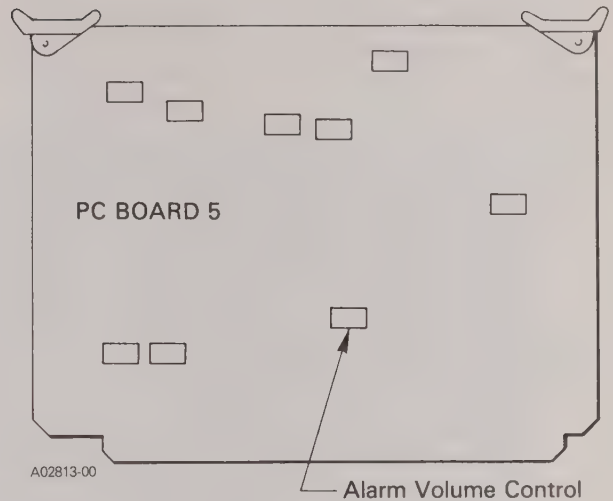

Fig. 2—Alarm Volume Adjust Control
- (1) Set POWER switch to off.
- (2) Remove the Model 41-3A's top cover by removing a retaining screw on each side of the unit's rear corners.
- (3) Place Card 5 (ejector marked 5) on a suitable extender board.
- (4) Ensure no telephone lines are connected to the Model 41-3A and perform the checkout procedure of paragraph 2.08, stopping at Step 9.
- (5) Refer to Fig. 2 and adjust the alarm volume potentiometer until the volume is satisfactory.
- (6) Set MODE switch to IDLE.
- (7) Set POWER switch to off.
- (8) Replace Card 5 and the Model 41-3A's top cover.